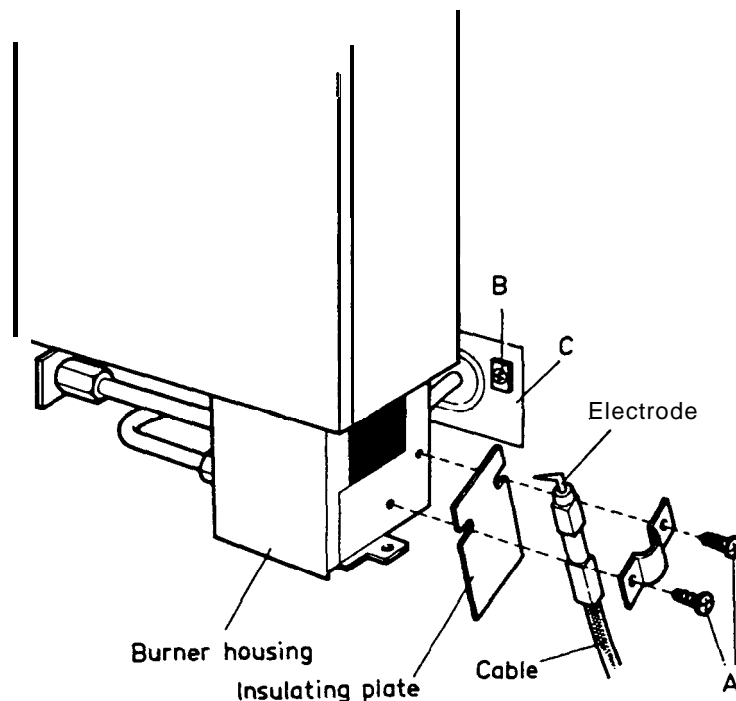

Fig. 78
2. **Loosen** fastening screw "A" (Fig. 78) holding the electrode against side of burner housing.
CAUTION : When fastening the electrode on the burner housing make sure that the insulation plate is properly fitted between the burner housing and the electrode (see fig. 78).
3. Loosen the fastening screw "A" (Fig. 78) holding the electrode against side of burner housing.